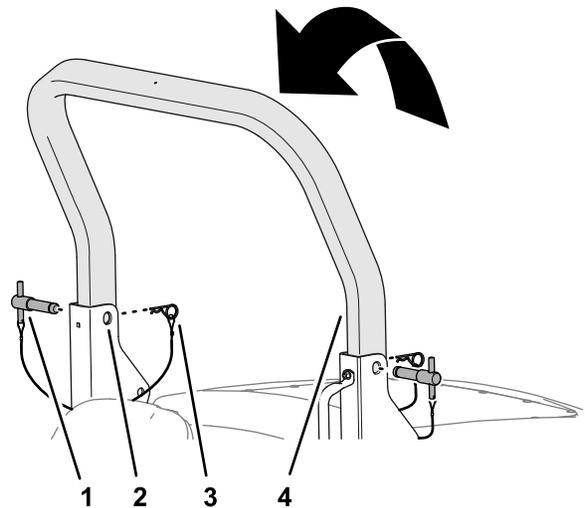

**Figure 22**
2. Remove the roll-bar pins to the pivot brackets (Figure 22).